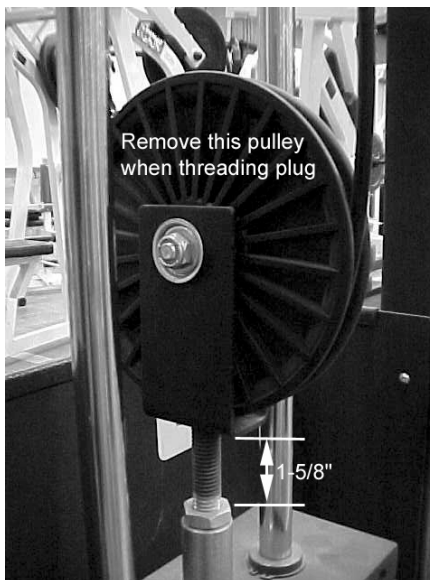

Figure 12. Bolt the floating pulleys into the crossover 190 lb weight stacks.
6. **Bolt the floating pulleys into the 190 lb weight stacks** used for the crossovers using a 7/8" combination wrench. You will need to remove the pulley from the housing to thread the plug into the weight stack bayonet. Make sure the 9/16" jam nut is threaded 1-5/8" away from the pulley as shown in Figure 12. Leave the pulleys out since you will need to have them out when the cable is routed.